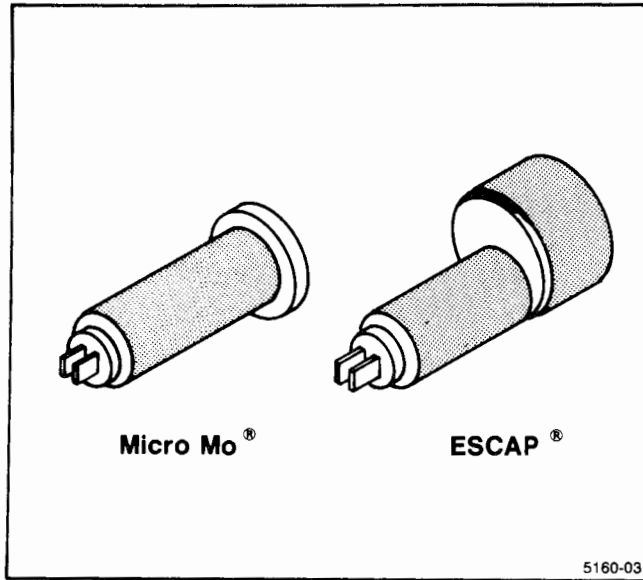

Fig. 4-3. Chart Recorder Motors.
- a. To make the motor speed adjustment determine which motor has been used in your instrument (see Figure 4-3).
- a. To make the motor speed adjustment, determine which motor has been used in your instrument (see Figure 4-3).